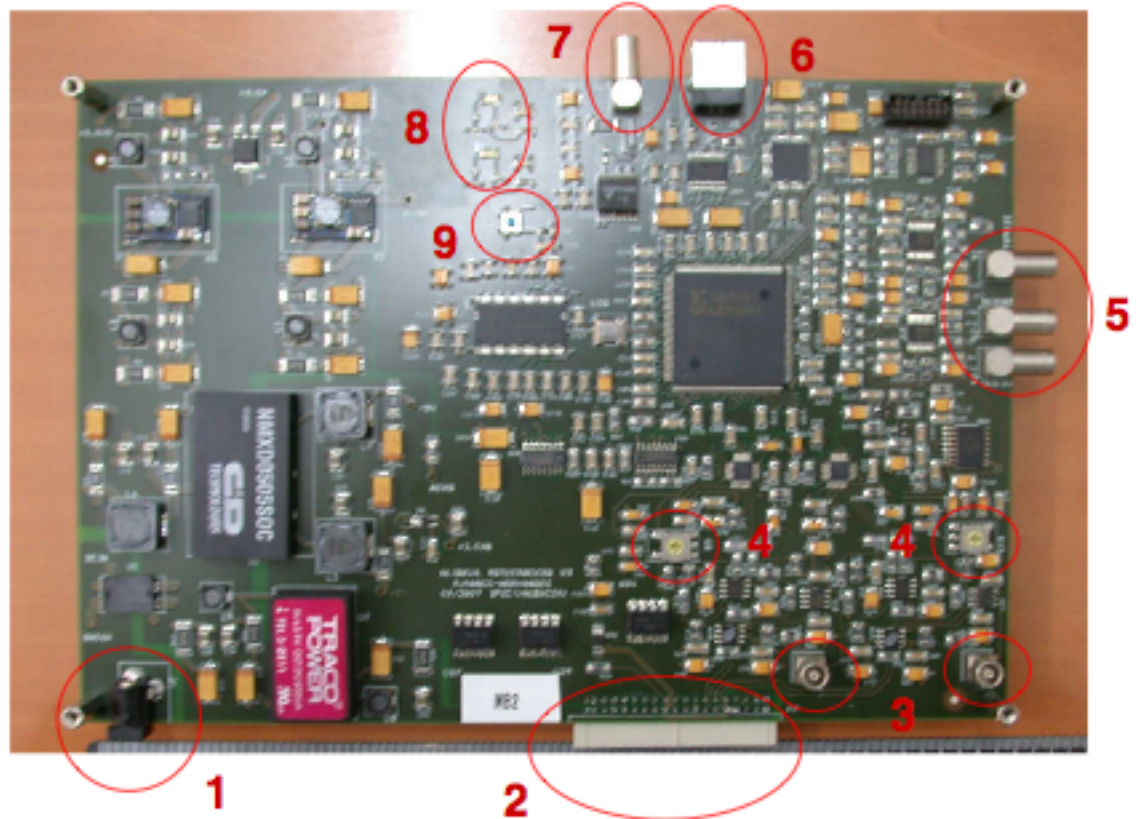

Figure 2. Connectors, switches and LEDs of the ALIBAVA motherboard.
1. Connect the daughter board to the mother board (item 2 of Figure 2) by means of the flat cable (the IDC connectors have a defined position both in the daughter board and the mother board).
2. Power on the system by means of connecting the AC/DC adapter to the motherboard power connector (item 1 of Figure 2). The red and the green LEDs of the motherboard (item 8 of Figure 2) are switched on.
3. Connect the USB cable to a USB port on the computer where the software is installed and to the USB connector of the motherboard (item 6 of Figure 2).
4. Push the reset button (item 9 of Figure 2) of the motherboard to initialize the system.
5. Launch the software following the software documentation. Now the hardware has been synchronized with the software and the red LED of the motherboard will be switched off (item 8 of Figure 2).
In order to take laser acquisitions the motherboard has a trigger output which uses the LEMO connector next to the USB connector (item 7 of Figure 2) for exciting a pulse generator which will drive the laser. The name of this output (TRIG OUT) is printed on the motherboard next to the corresponding connector.
For this setup the motherboard has three trigger inputs which use three LEMO connectors (item 5 of the figure 2). The name of each trigger input is printed on the motherboard next to the corresponding connector.
There are two analogue outputs at the motherboard in order to probe the analogue output signal of each Beetle chip before they are digitized. These output signals use the two vertical LEMO connectors of the motherboard (item 3 of the Figure 2). These outputs must be connected to the $50\ \Omega$ input of an oscilloscope. A $50\ \Omega$ coaxial cable must be used for these connections.
There are two rotary switches of three positions on the motherboard (item 4 of Figure 2) to modify the ADC input range for each Beetle chip. The position 2 corresponds to an input range of $\pm 512\ \text{mV}$ (with a resolution of 1 mV). The position 3 corresponds to an input range of 1024 mV (with a resolution of 1 mV) only for positive signals. The position 1 corresponds to a input range of -1024 mV (with a resolution of 1 mV) only for negative signals.